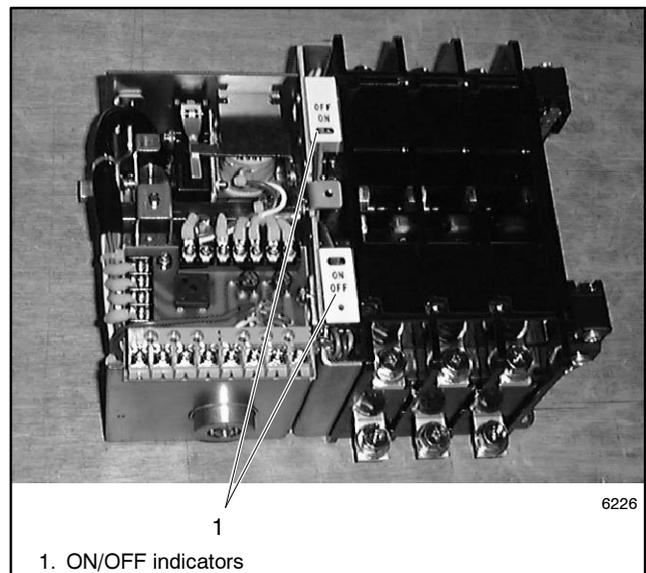

Figure 6-2 ON/OFF Indicators
2. Remove the ON/OFF indicators. Save the indicators for installation during reassembly. See Figure 6-2.